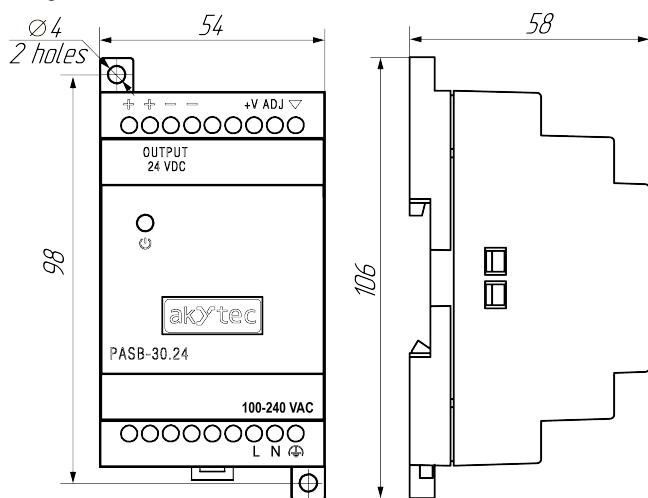

Fig. 5 – Dimensions
The device is designed to be mounted on 35 mm DIN rail or on an even vertical surface. The device overall dimensions must be taken into account when mounting the device (see Fig. 5). It is necessary to provide free space for routing wires to be connected to the device.
- Secure the device on the vertical surface by screws (not included in the delivery) using the two mounting holes of the device housing (see Fig. 5).